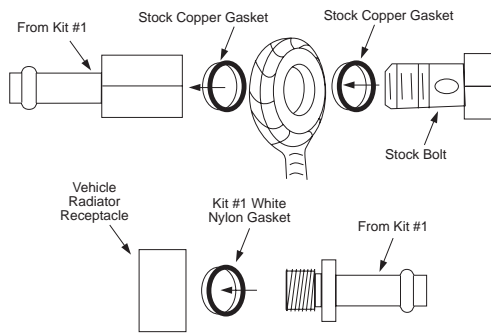

Figure 65. Kit #1 Installation on Ford Escort
3. Install the T-TECH male half into the radiator using the white nylon gasket (supplied) (see Figure 65).